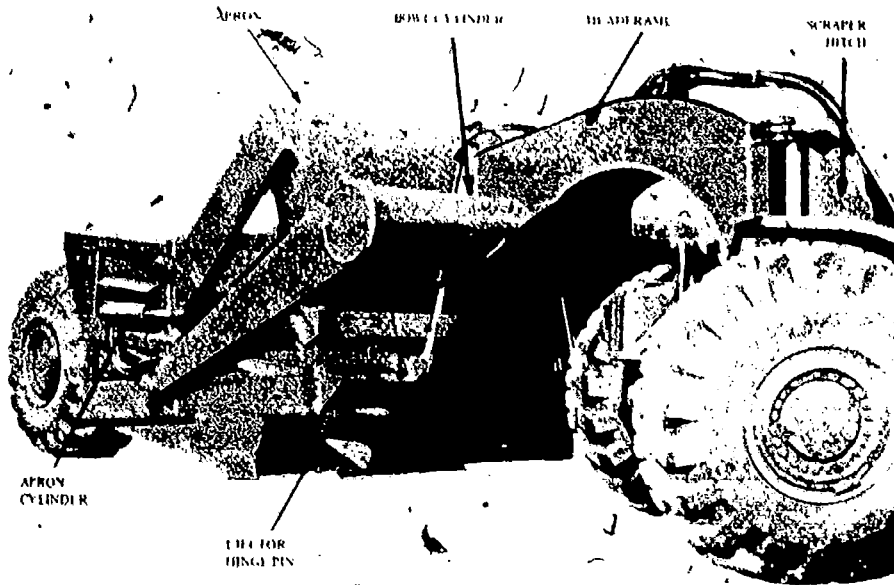

Fig 4-36. Scraper with apron open.
- (3) Cutting edge. The leading edge of the bowl is equipped with reversible, replaceable cutting edges (fig 4-36). The center portion (stinger bit) extends lower than the end sections. This aids in loading the material into the center of the scraper. The two outer sections are known as end sections. The leading edge of the bowl is also equipped with routing bits which assist in controlling scraper cuts. All cutting edges should be reversed or replaced before they are worn down to the bowl frame.